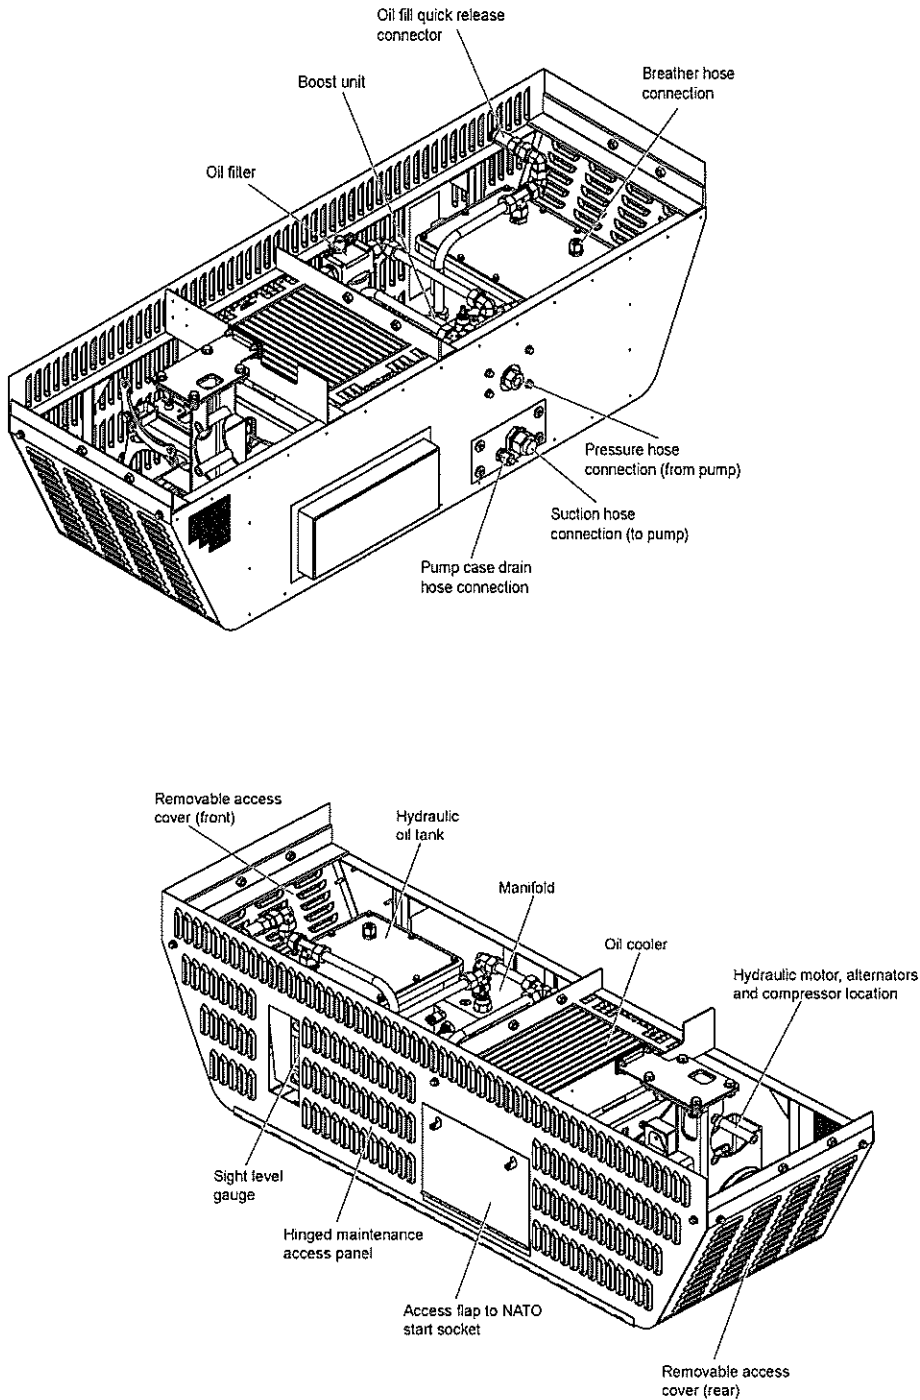
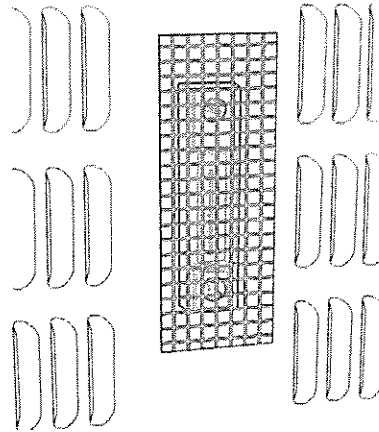
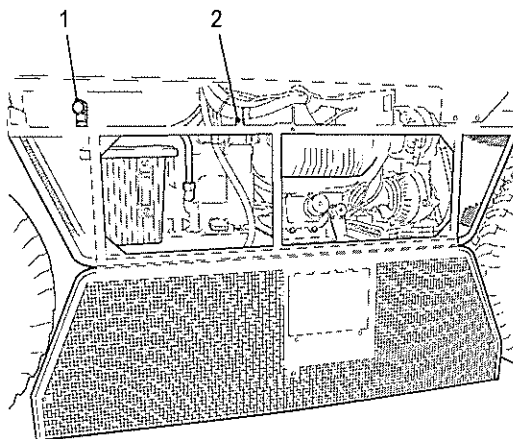

Fig 1 Hydraulic module component layout
Fig 2 Sight level gauge – hydraulic system
Fig 3 Hydraulic module access – side
7 The component layout in the hydraulic module is provided in Fig 1.
8 The level of the oil in the hydraulic module is indicated on the sight level gauge located in the side of the hydraulic system module on the left external side of the vehicle (see Fig 2).
10.1 Remove and retain the bolts securing the hinged maintenance access panel (see Fig 1) of the hydraulic module and open the panel (see Fig 2).
10.2 Connect the fill adaptor provided in the vehicle CES onto the quick release connector (see Fig 1 and Fig 3 (1)).
11 Air is expelled from the system via the air breather that is connected to the top of the tank (see Fig 1 and Fig 3 (1)). Once any hydraulic component is exchanged and/or the system oil is changed or topped up, run the engine at tick over for 2 minutes with the air conditioning switched off.
17.5 Place a suitable drain tray on the ground under the hydraulic module beneath the hydraulic hose connections at the in board side of the module (see Fig 1).
17.7 Remove and retain the bolts securing the hinged maintenance access panel (see Fig 1) of the hydraulic module and open the panel (see Fig 3).
17.11 Disconnect the breather hose from the connection on the top of the hydraulic oil tank (see Fig 1).
21 A filter blocked indicator is provided on the oil filter (see Fig 1) head. To check the filter blocked indicator proceed as follows:
21.1 Remove and retain the bolts securing the hinged maintenance access panel (see Fig 1) of the hydraulic module and open the panel (see Fig 3) and check indicator (see Fig 3 (2)).
23.2 Remove and retain the bolts securing the hinged maintenance access panel (see Fig 1) of the hydraulic module and open the panel (see Fig 3).
27.2 Remove and retain the bolts securing the hinged maintenance access panel (see Fig 1) of the hydraulic module and open the panel (see Fig 3).
27.3 Position a suitable drip tray under the filter and unscrew the boost filter element (adjacent to the manifold (see Fig 1)) using a suitable filter wrench. Dispose of used oil and filter in accordance with local regulations and procedures. Contain any oil spill with spill absorbent materials.
32.2 Remove and retain the bolts securing the hinged maintenance access panel (see Fig 1) of the hydraulic module and open the panel (see Fig 3).
33.3 Remove and retain the bolts securing the hinged maintenance access panel (see Fig 1) of the hydraulic module and open the panel (see Fig 3).